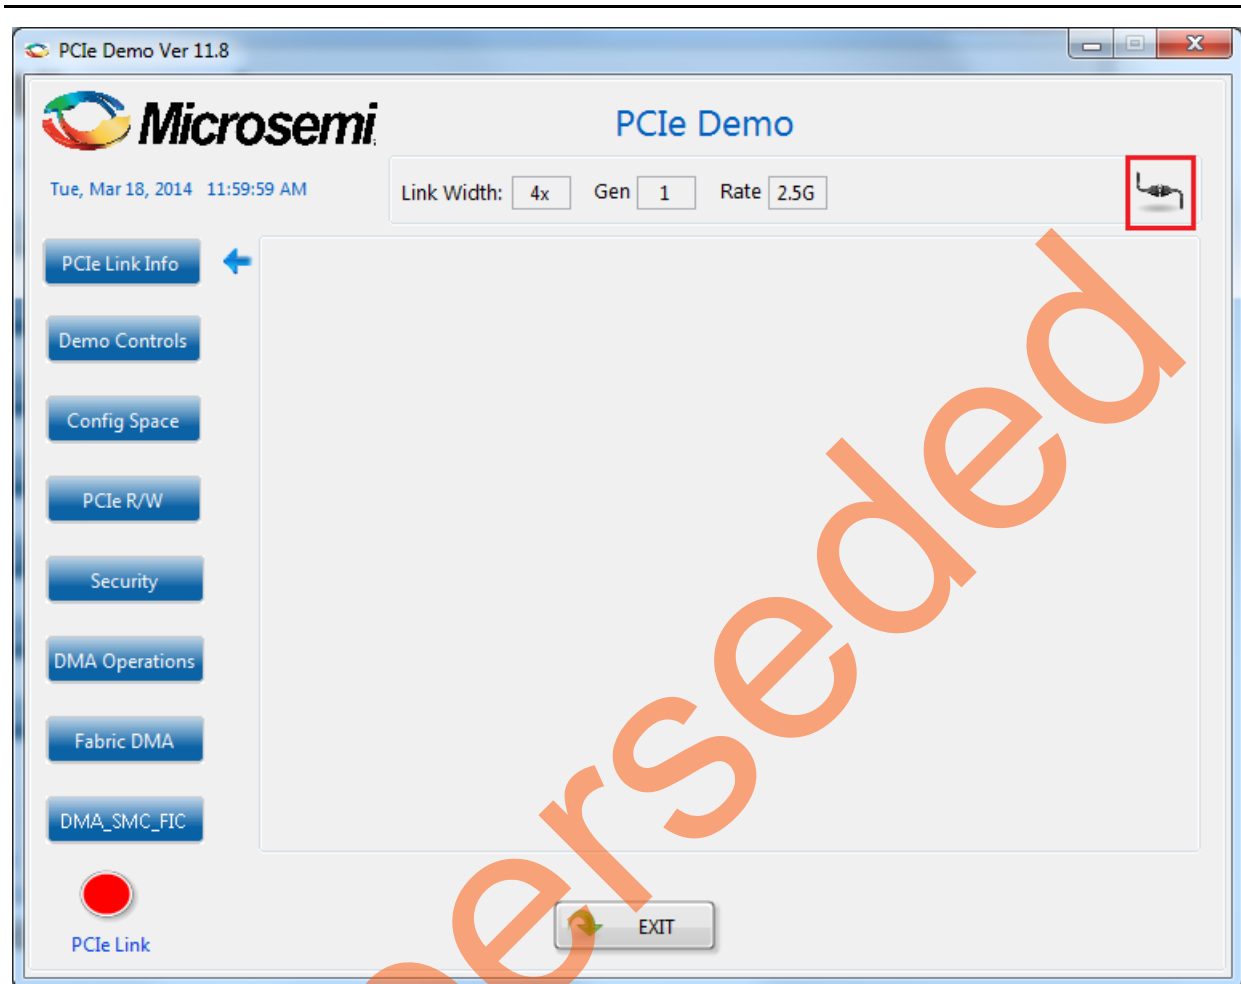

Figure 58 • PCIe Demo GUI
2. Invoke the GUI from **ALL Programs > PCIe Demo > PCIe Demo GUI**. The GUI is displayed as shown in Figure 58.